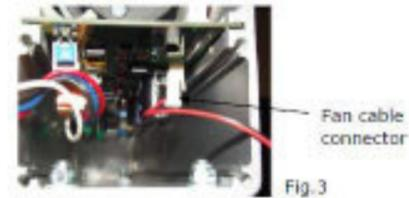

Fig.3
- Carefully disconnect the 2-pin fan plug from the PCB see Fig.3 for location.